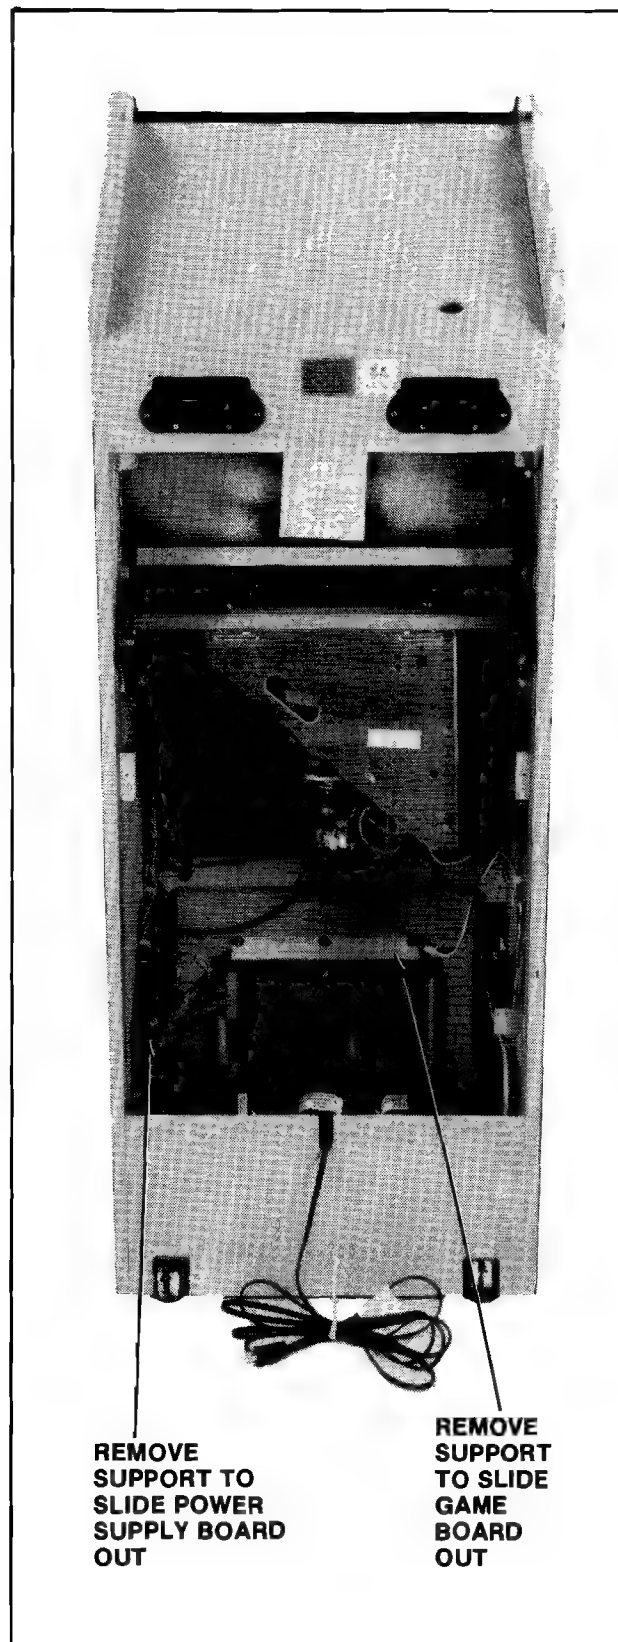

Figure 2-19 Removing P.C.B.'s - Upright
2.8.1 UPRIGHT MODEL: (See Figure 2-19)
- ☐ Disconnect the power supply board from all its cabling, remove the P.C.B. supports indicated in Figure 2-19, and slide it out the back of the cabinet.